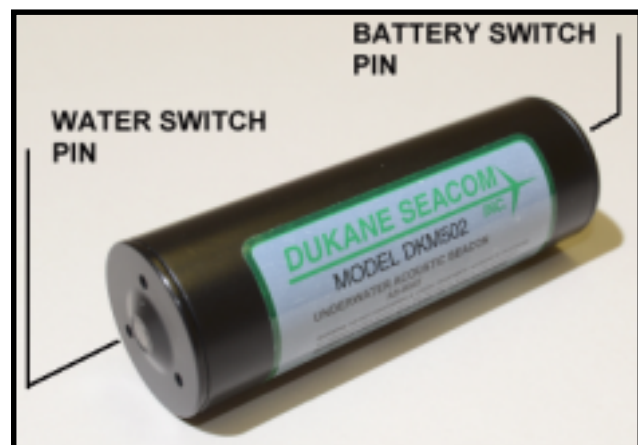

Figure 2. Water Switch Pin Location
B. Place the negative lead of the high impedance voltmeter on the water switch pin and the positive lead of the meter on the battery switch pin. See Figure 2.